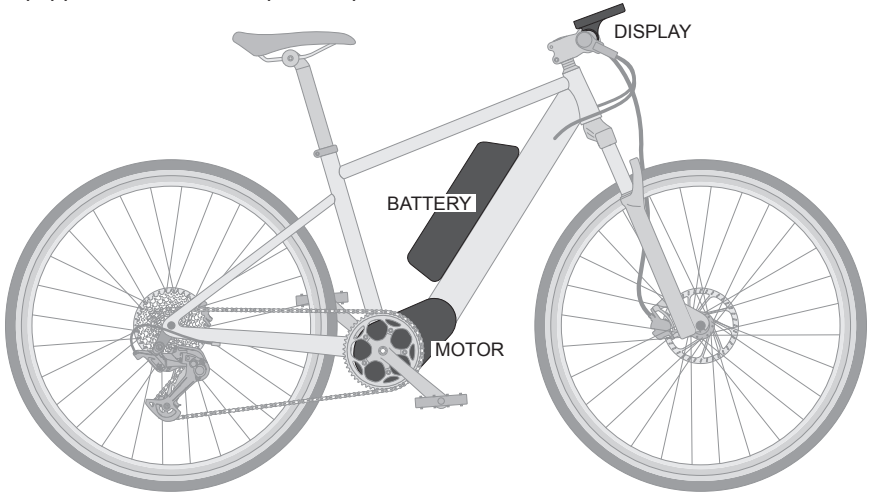
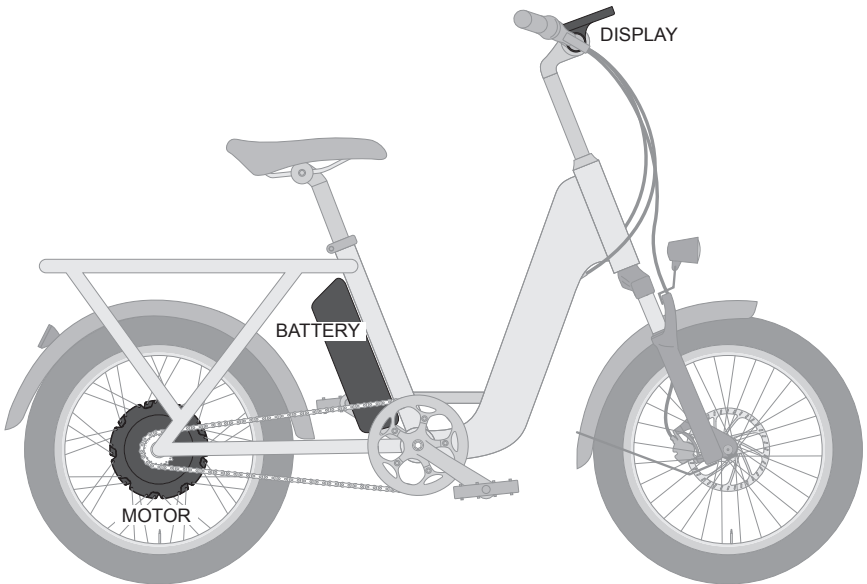

fig. 1
fig. 2
**WARNING:** A child should never ride an e-bike that is too big for them. While some e-bikes have step-through frames (see fig. 2) that may allow a child to mount an e-bike, that does not mean the e-bike is the right size for them to operate safely. An e-bike that is too big for a child may lead to a loss of control and fall, resulting in serious personal injury or death.
- **Display(s):** Provide the rider with relevant information about the ride, such as speed, distance, power output, and battery charge (**fig. 1**).
- **Class 1:** Bicycle equipped with a motor that provides assistance only when the rider is pedaling, and that ceases to provide assistance when the electric bicycle reaches 20 mph (**fig. 1**).
- **Class 2:** Bicycle equipped with a throttle-actuated motor, that ceases to provide assistance when the electric bicycle reaches 20 mph (**fig. 2**).
NOTE: This Manual is only for e-bikes that are manufactured as complete e-bikes and designed to apply power through the rear wheel, with either a “mid-drive” motor (**fig. 1**) or motor contained in the rear hub (**fig. 2**). This Manual does not cover other types of e-bikes, including front-wheel drive, conversion kits, or “add-on” electric motors of any kind.